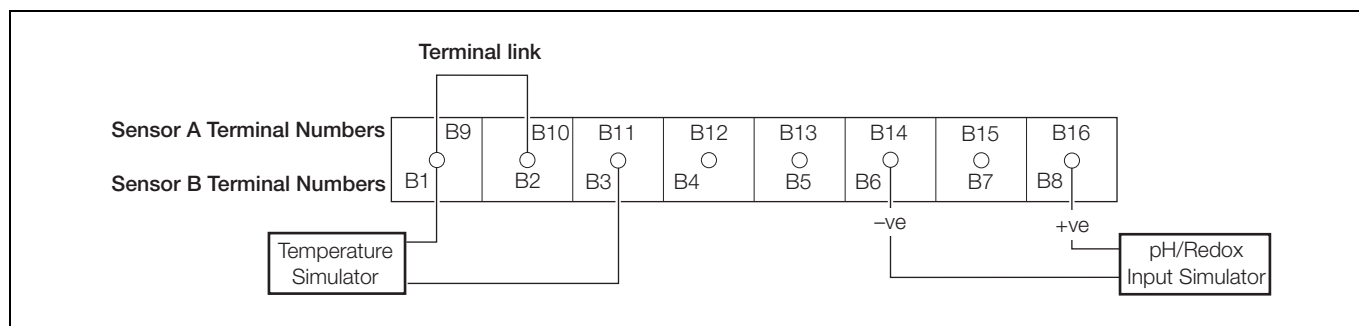

Fig. 7.1 Analyzer Terminal Links and Decade Resistance Box Connections
2. Sensor A – Fig. 7.1:
Sensor B (dual input analyzers only) – Fig. 7.1: